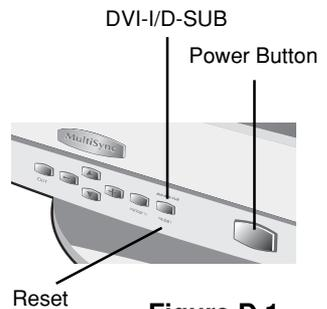

Figure D.1
6. Turn on the monitor (**Figure D.1**).